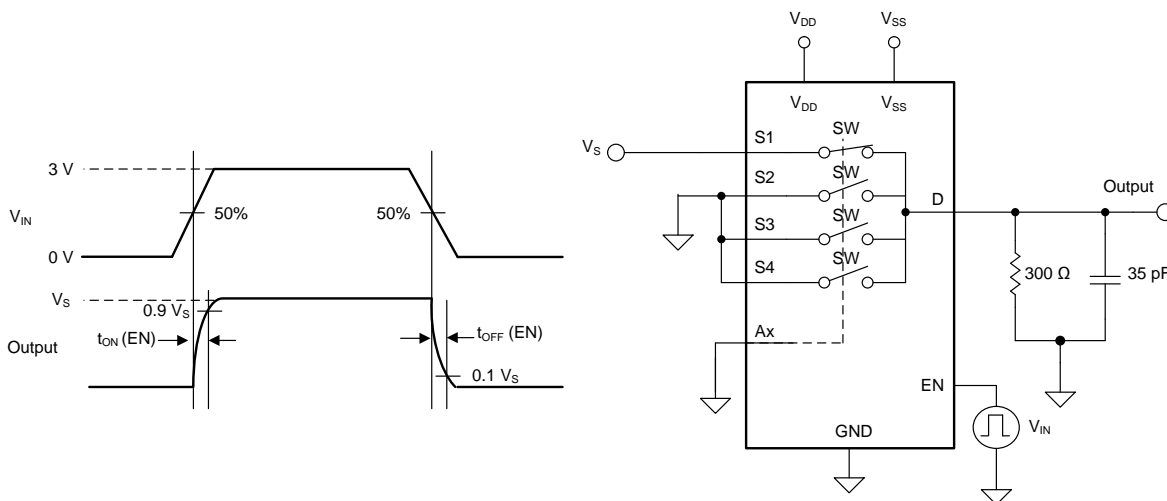

图 22. Turn-On and Turn-Off Time Measurement Setup
Turn-on time is defined as the time taken by the output of the TMUX6104 to rise to a 90% final value after the enable signal has risen to a 50% final value. 图 22 shows the setup used to measure turn-on time. Turn-on time is denoted by the symbol $t_{ON (EN)}$.
Turn off time is defined as the time taken by the output of the TMUX6104 to fall to a 10% initial value after the enable signal has fallen to a 50% initial value. 图 22 shows the setup used to measure turn-off time. Turn-off time is denoted by the symbol $t_{OFF (EN)}$.